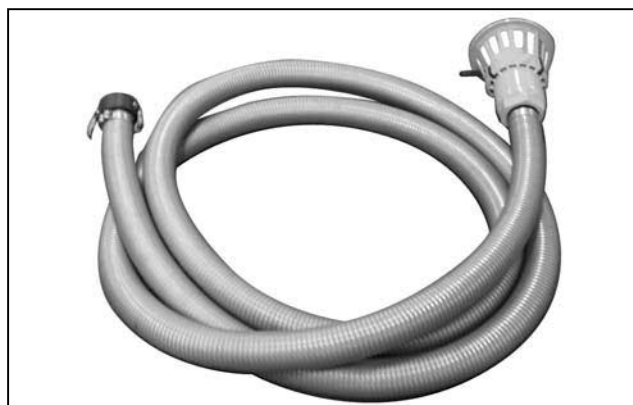

Fig. 10.5
- 1 Sugelang 2" (8m), best.-nr. 914398 (fig. 10.5)
- 2 Sugelang 3" (8m), best.-nr. 924459 (Fig. 10.5)